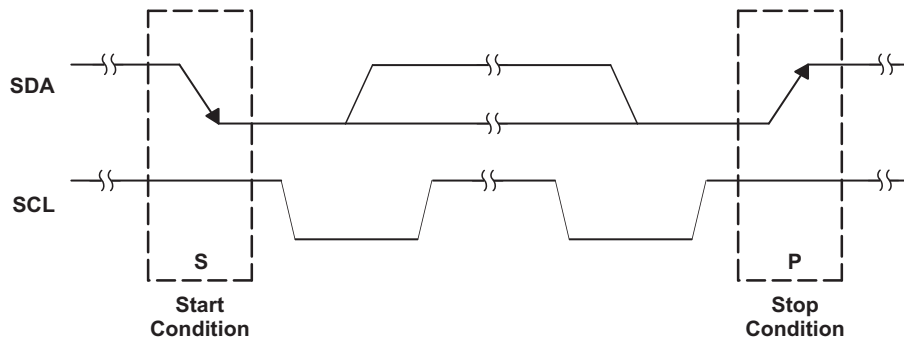

Figure 19. I²C Start and Stop Conditions
The basic I²C start and stop access cycles are shown in Figure 19. The basic access cycle consists of the following:
- The master initiates data transfer by generating a start condition. The start condition is when a high-to-low transition occurs on the SDA line while SCL is high, as shown in Figure 19. All I²C-compatible devices should recognize a start condition.
- To signal the end of the data transfer, the master generates a stop condition by pulling the SDA line from low to high while the SCL line is high (see Figure 19). This releases the bus and stops the communication link with the addressed slave. All I²C compatible devices must recognize the stop condition. Upon the receipt of a stop condition, all devices know that the bus is released, and they wait for a start condition followed by a matching address.